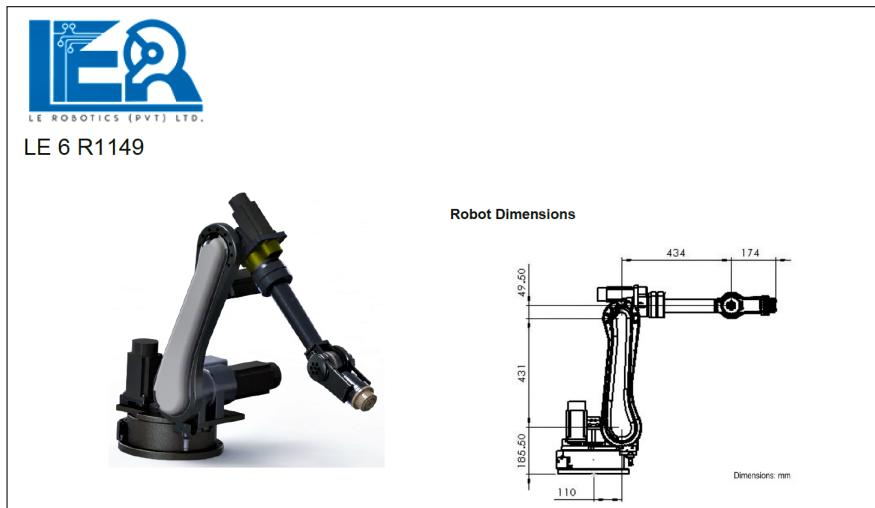

Figure 1.2: Model *LE 6 R1149* 6-DOF articulated robot arm?
1. **6 DOF Robots** - Robots with six degrees of freedom (Figure 1.2 depicts such a model)